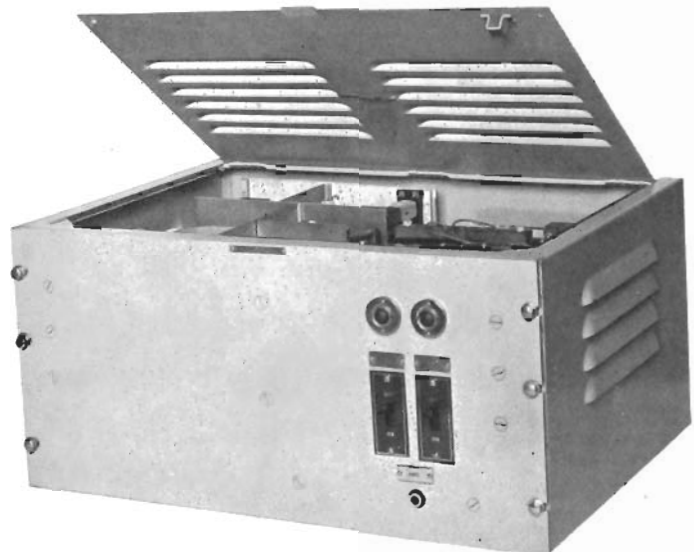

FIG.3 7D TRANSMITTER-CABINET MODEL.
(4) COMPOSITION AND CONSTRUCTION (See Figures 3 and 4)